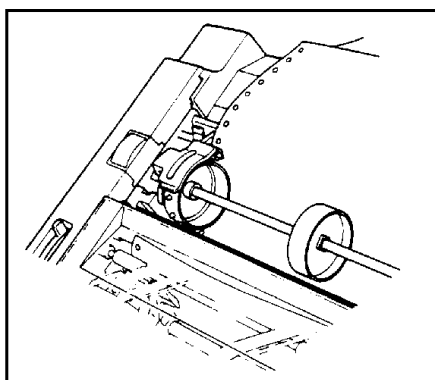

FIGURE 19 - PAPER INSERTION
3.8.2.5 Insert the paper so that the sprocket holes align with and catch on the tractor pins (Figure 19).